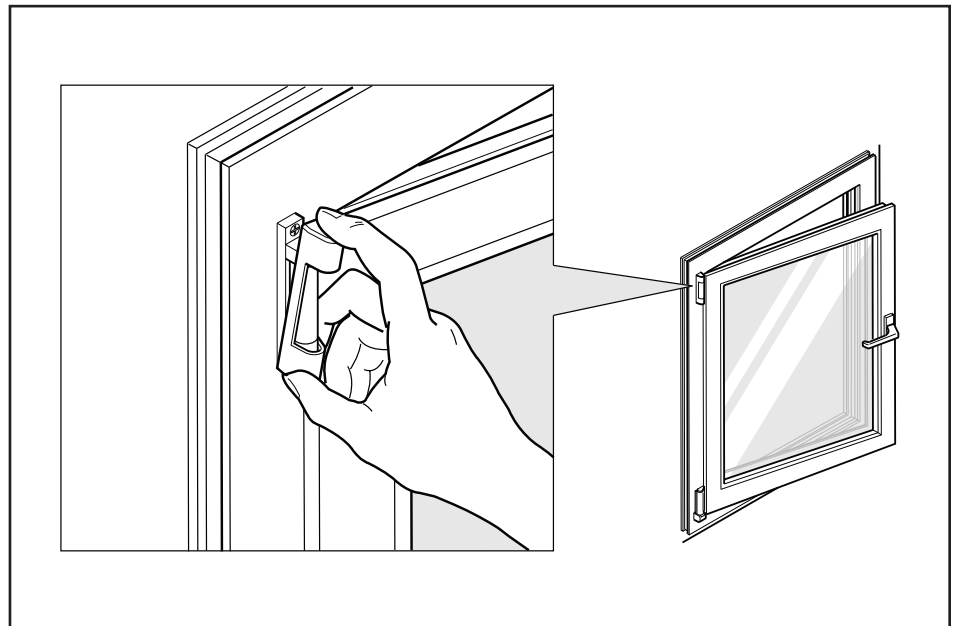

Figure 2-7. How to remove the hinge cap
- 2.2. Pull off the hinge cover. If you do not partially open the sash, you cannot remove the hinge cover. See fig. 2-7.